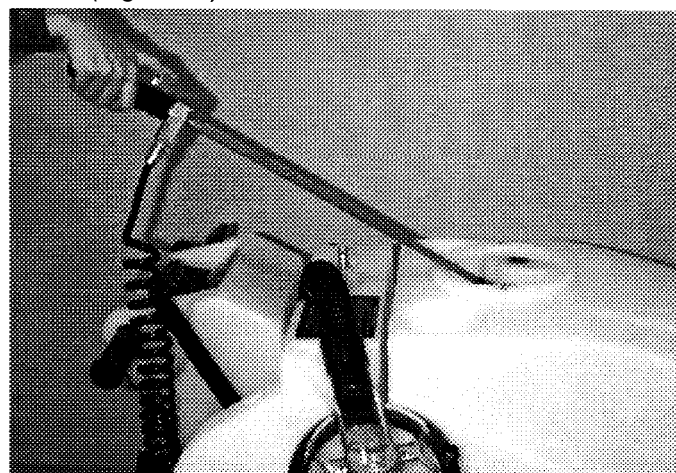

Fig. 17
- b. To rinse recovery tank, remove clear recovery dome and flush recovery tank with prespray wand. (Figure 17).